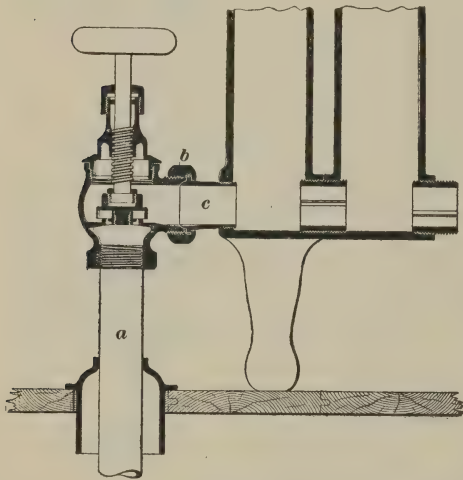

FIG. 76
**121.** The **angle valve** is most commonly used for a radiator, because the steam pipe *a*, Fig. 76, usually comes